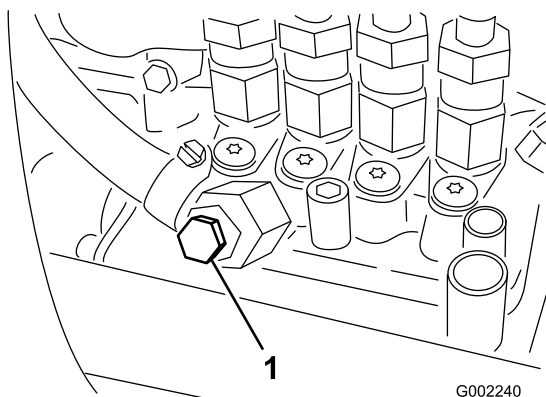

Figure 45
7. Open the air bleed screw on the fuel injection pump (Figure 45).